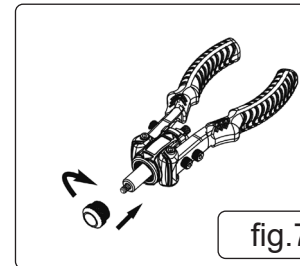

fig.7
- 4.2.3. Screw the sleeve fixing nut (fig.1.5) into the unit (fig.7).